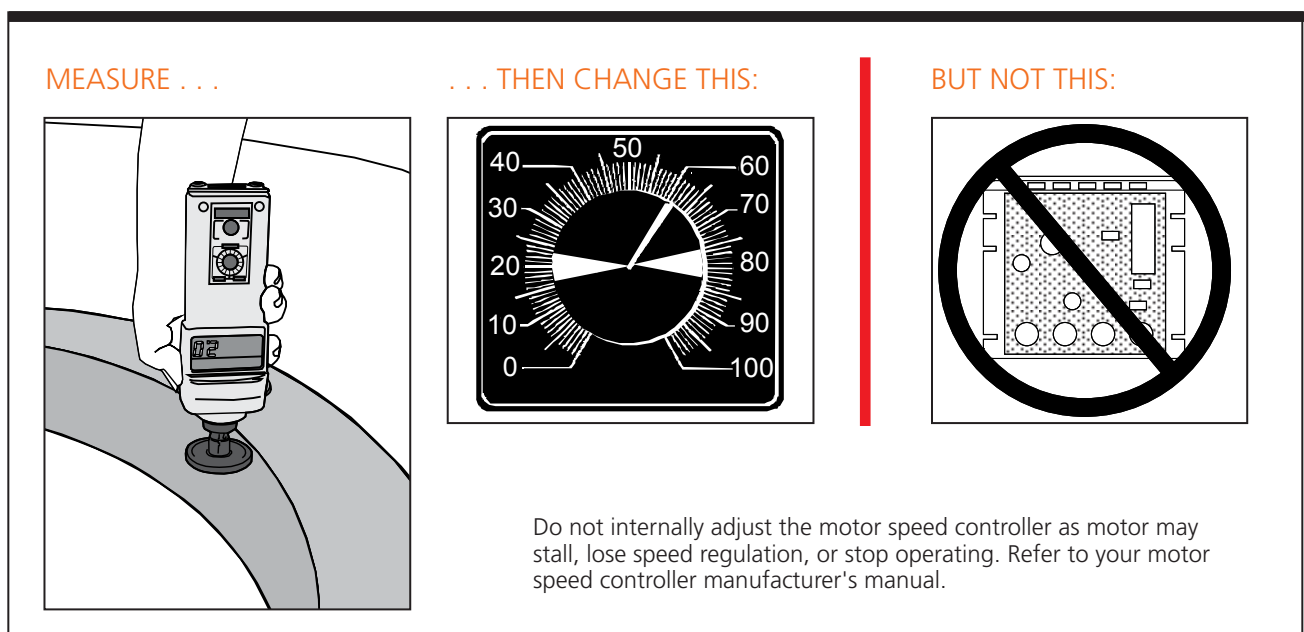

Figure 3-1. Measurement and Changes to Bowl Speed
- ➔ You will need a hand-held tachometer (analog or digital) with a surface speed wheel indicator (see Figure 3-1).